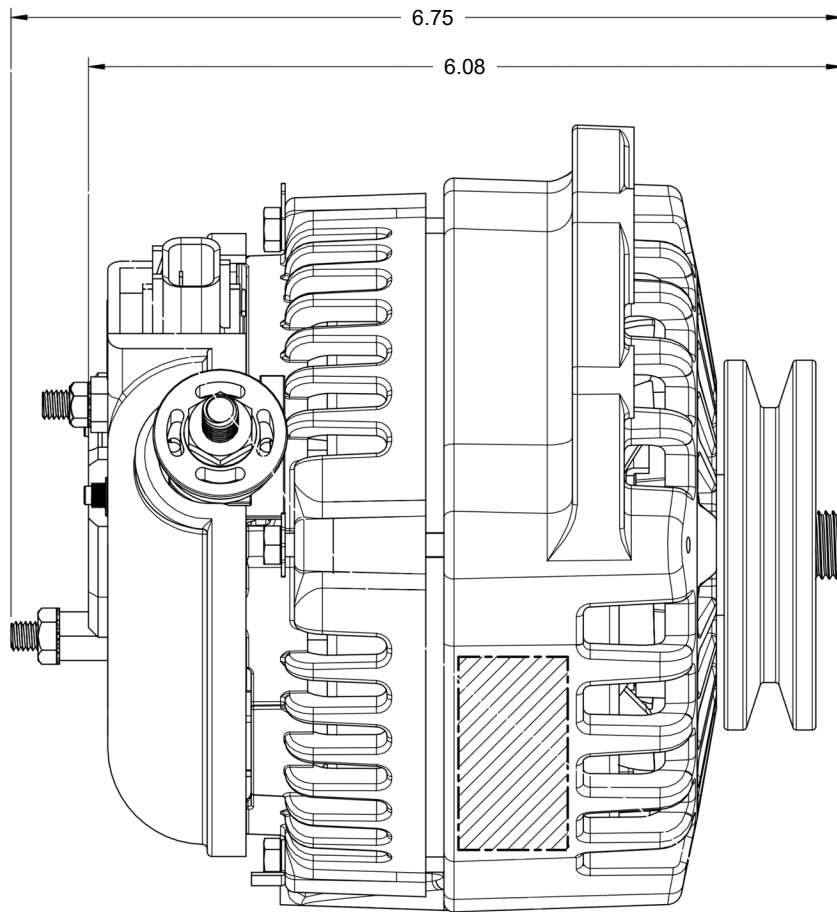

Fig. 2-3 - ALT-FLX Alternator - Side View 1
- (1) The basic dimensions (in.) of the alternator are shown in Fig. 2-3 thru 2-5.